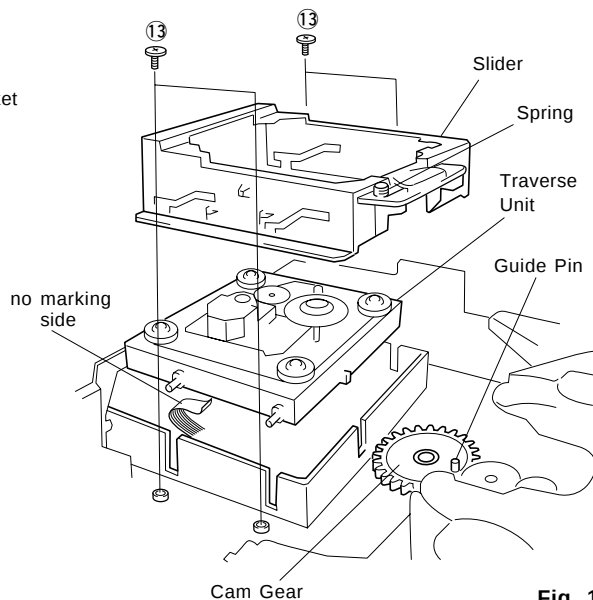

Fig. 11
- Remove 4 screws (⑬) and take out the Slider in Fig. 11.
- Remove the Traverse Unit in Fig. 11.
- Turn the Cam Gear until its Guide Pin comes to the position as shown in Fig. 11.